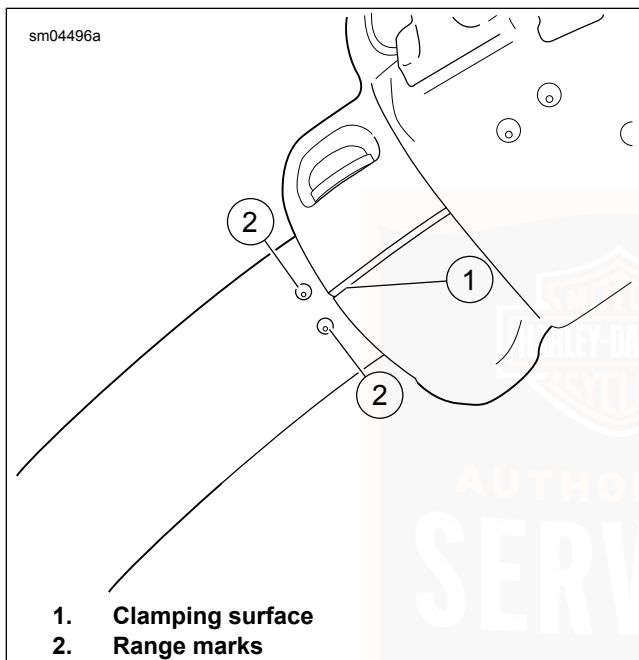

Figure 92. Right Hand Control Assembly to Handlebar Alignment
5. See Figure 92. Rotate the right hand control assembly and brake hand lever to a comfortable position. Keep the clamping surface (1) within the range marks (2).